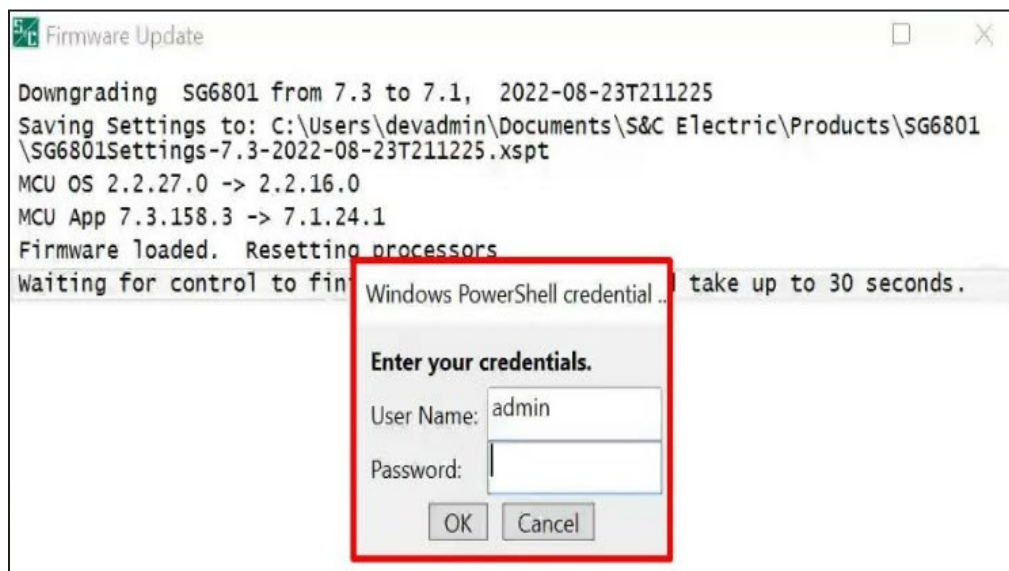

Figure 37. The Windows PowerShell Credentials dialog box.
STEP 19. If the Windows PowerShell Credential dialog box appears, enter the same password entered in Step 12 on page 28. See Figure 37.